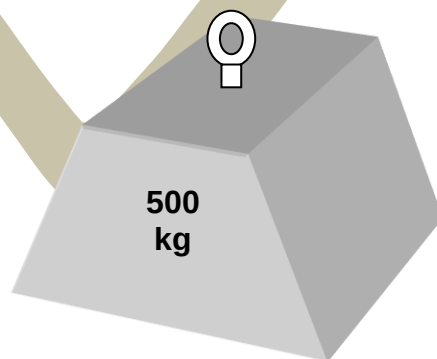

FIGURE 4
7.1 FIGURE 4 shows a solid block that must be lifted 50 metres onto a platform.